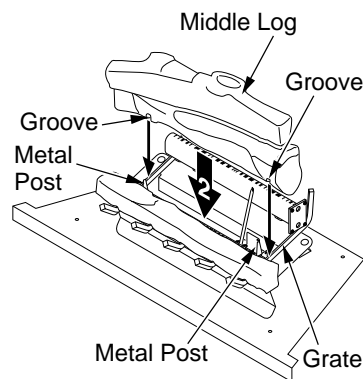

Figure 25 - Installing Middle Log
2. Rest middle log behind metal posts on front burner. Make sure the grooves in the bottom of the log fit over the grate. Bring the log forward next to the metal posts (see Figure 25).